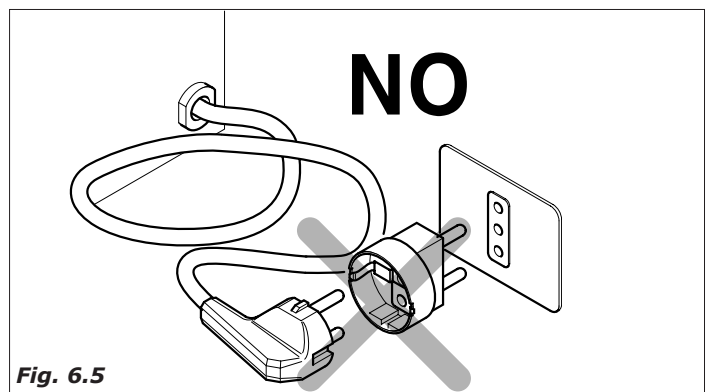

Fig. 6.5
- The sockets that are not compatible with that of the machine must be replaced. (Fig.6.5).